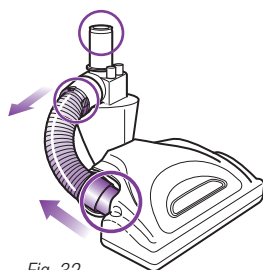

Fig. 32
- Detach the hose on the motorized floor brush at the top by squeezing the tabs together and pulling out, and at the bottom by pulling out the connector. Inspect inside the 3 holes. (Fig. 32)